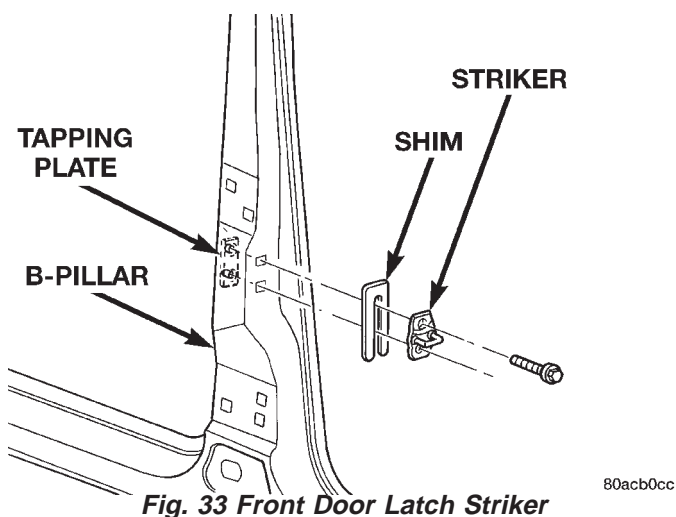

Fig. 33 Front Door Latch Striker
- (1) Use a wax crayon or equivalent and mark position of striker on B-pillar.
- (2) Remove bolts attaching striker and shim to B-pillar (Fig. 33).
- (3) Separate striker from B-pillar.